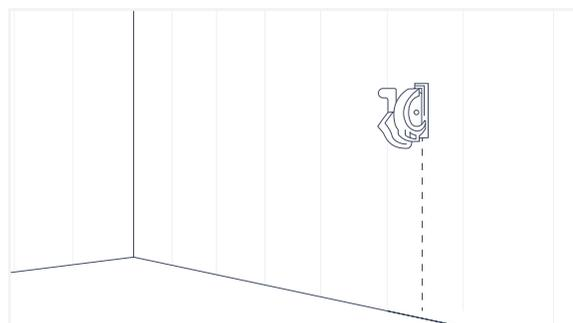

Fig. 38
2. Using the saw, cut through the center of the damaged panel, parallel to the panel joints (Fig. 38).